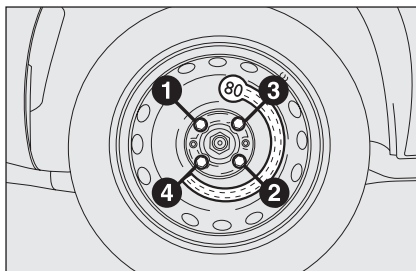

fig. 8
- using the wrench provided, tighten up the wheel bolts in a criss-cross fashion following the sequence shown in fig. 8.
- Using the wrench provided, fully tighten the bolts in the sequence shown in fig. 8;
- Using the wrench provided, fully tighten the bolts in the sequence shown previously for the space-saver spare wheel (see fig. 8).